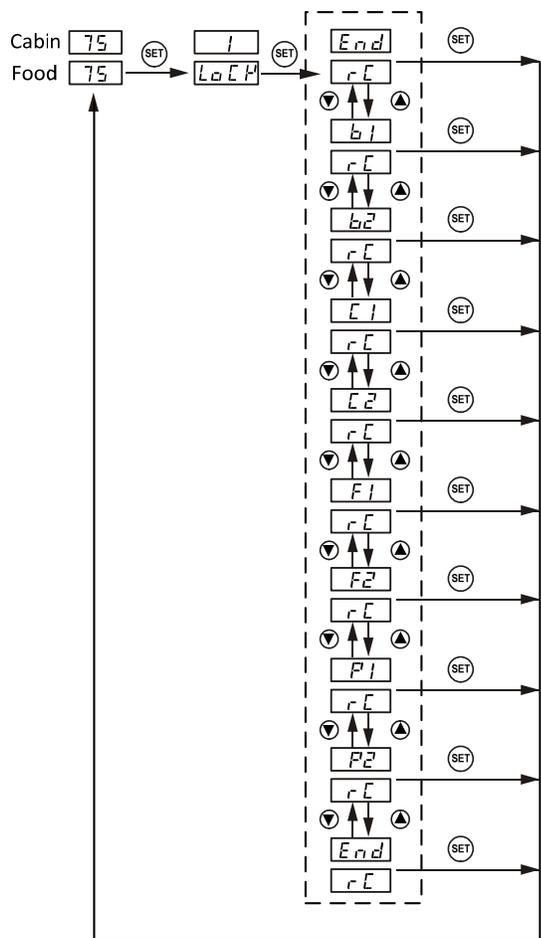

Figure 10. Flow chart of recalling a recipe.
**WARNING:** Your current program will be overwritten by the selected recipe. Please write it down somewhere if it is important to you. To recall a recipe, press and hold SET key for 2 seconds until the bottom window shows "LOCK" and then release the SET key. The top window will show "0". Use "▲" key to adjust the number to "1" and then press SET. Then "rC" (recall) will be shown on the bottom window and "End" on top window. This can prevent your current program been accidentally overwritten by a recalled program. Use "▲" and "▼" key to locate recipe you want to recall. If you press "+" key repeatedly, you will see "End", "b1", "b2", "C1", "C2", "F1", "F2", "P1", and "P2" one by one. After you locate the recipe that you want to recall, press the SET key to select. Current program will be overwritten by the selected program. Figure 10 shows the flow chart of how to recall a recipe.